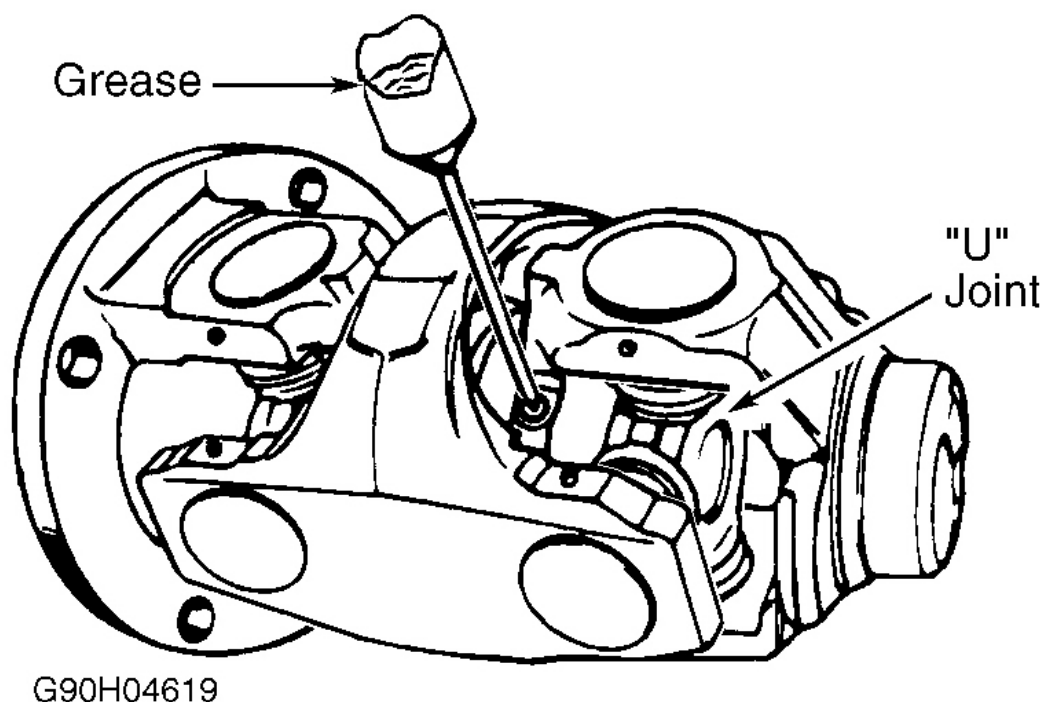

Fig. 9: Lubricating Ball Socket Of Double Cardan Joint
2. Ball socket on double cardan joint requires periodic lubrication through provided fitting. Special Lubricant (1050679) is recommended by manufacturer. If lubrication fitting cannot be seen from beneath vehicle, double cardan joint may be lubricated from above using Adapter (J-25512-2) attached to end of a flex hose. See **Fig. 9**.